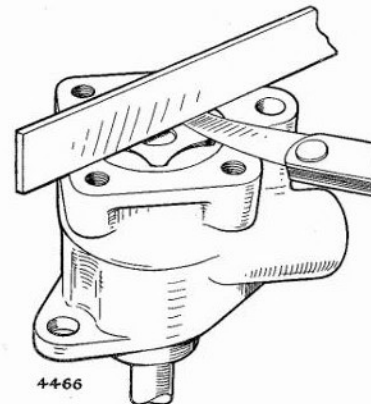

Fig. B.131. Checking end float of the oil pump rotor and ring, using a feeler gauge and straight edge.
- (a) End float between the rotor and ring, and the bottom face of the pump body should not exceed .003 in. (.076 mm.) when measured with a feeler gauge and straight edge (see Fig. B.131). Providing there is no abnormal wear present, excess end clearance can be removed by lapping the bottom face of the pump body.